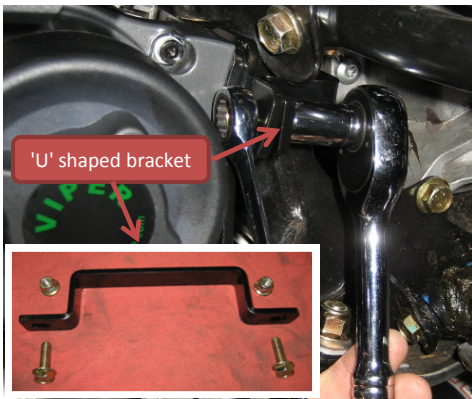

Figure 26
**Step 12 - Install 'U' shaped bracket to backside of winch mount plate (Figure 26)**